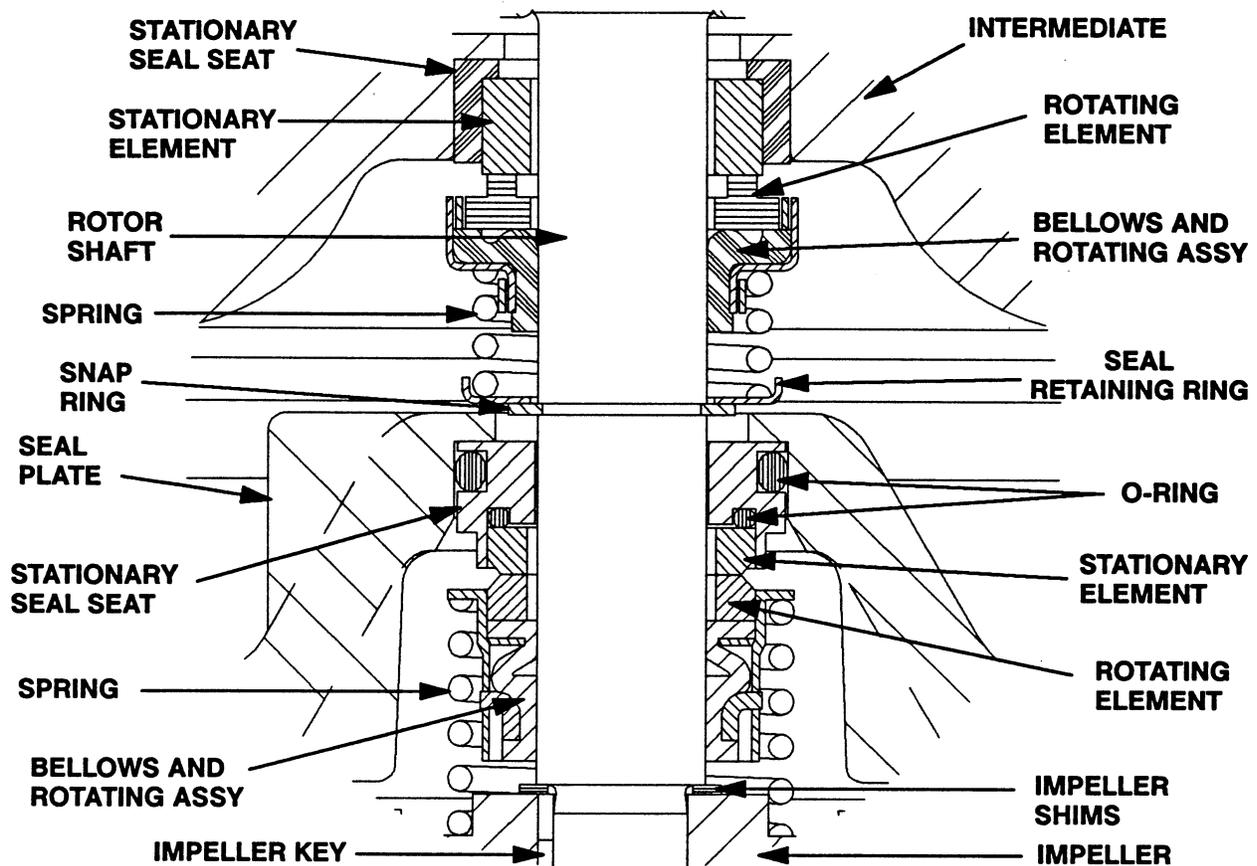

Figure 3. 46512-036 (Lower) And 25271-824 (Upper) Seal Assemblies
Install the shaft seals as illustrated in Figure 3.
Slide the seal spring over the shaft and bellows retainer, and install the spring retainer. Compress the spring and install the seal snap ring (7). See Figure 3 for proper order of seal assembly.
Unpack the stationary seat, and check that the O-rings are properly installed (see Figure 3). Apply a light coating of oil to the outer O-ring O.D. Keep the sealing face dry.